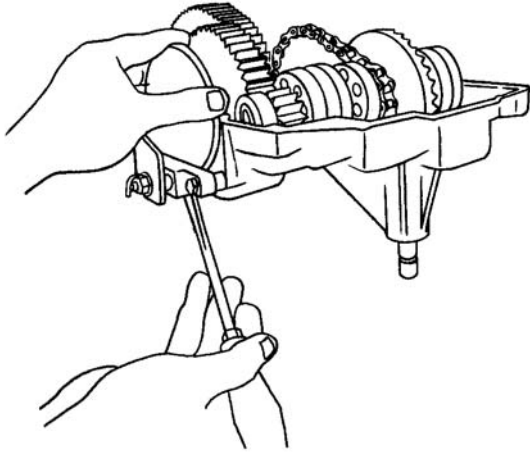

Figure 5-57. Separating Brake Pucks
5. Using a screwdriver to separate the brake pucks, install the output shaft with the brake disc in place. See Figure 5-57.